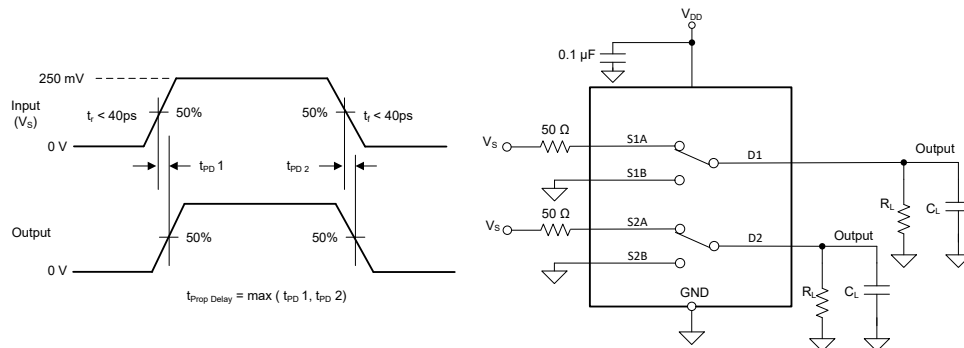

**Figure 6-11. Charge Injection Measurement Setup**
Any mismatch in capacitance results in a charge injected into the drain or source during the falling or rising edge of the gate signal. The amount of charge injected into the source or drain of the device is known as charge injection, and is denoted by the symbol  $Q_C$ . Figure 6-11 shows the setup used to measure charge injection from Drain (D) to Source (Sx).